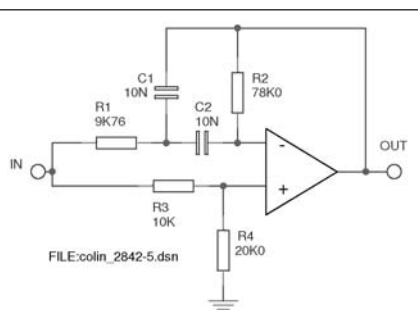

FIGURE 10: Second-order resonant all-pass. For flat amplitude response:
Figure 10 shows a circuit I built, based on Dick Crawford's article⁴. I cascaded four of these to get an eighth-order resonant all-pass. Resonance (Q greater than 0.5) steepens the phase versus frequency slope, but does not produce an amplitude peak. (It's still an all-pass, meaning flat amplitude versus frequency response.)
Because it's second-order, the circuit of **Fig. 10** has a phase shift that varies from 0° to -360° as frequency varies from zero (DC) to infinity. Of course, -360° , like $+360^\circ$, is the same (non) angle as 0° . But -360° here means that as frequency is increased from zero, a sine wave is progressively delayed (phase shifted) until, at frequencies much higher than f_0 (where the phase is -180°), the wave is delayed by an amount approaching a full cycle.